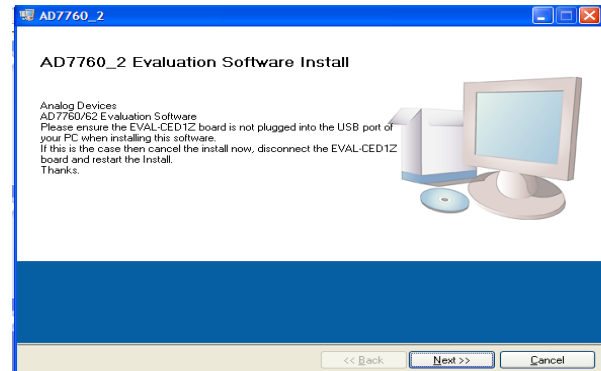

Figure 2. EVAL- AD7763_2EDZ Setup Dialog Box, Initial Software Install Screen
2. The dialog box shown in Figure 2 appears.